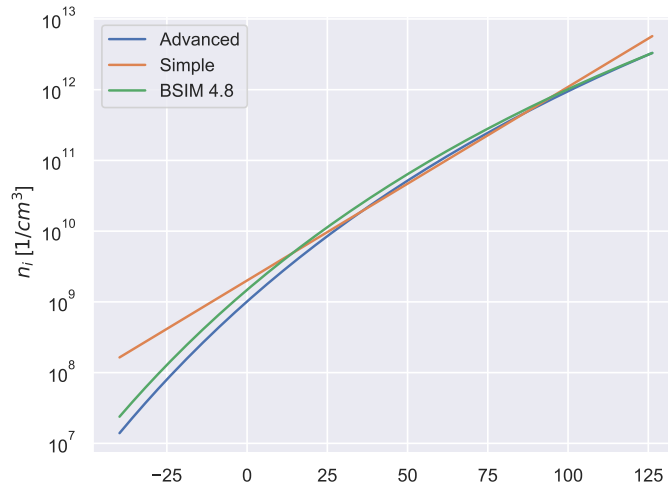

Figure 2: Intrinsic carrier concentration versus temperature
Comparing the three models in Figure 2, we see the shape of BSIM and the full equation is almost the same, while the "doubling every 11 degrees" is just wrong.
From Figure 2 we can see that n_i changes greatly as a function of temperature, but the understanding “why” is not easy to get from “doubling every 11 degrees”. To understand the temperature behavior of diodes, we must understand Eq (1).